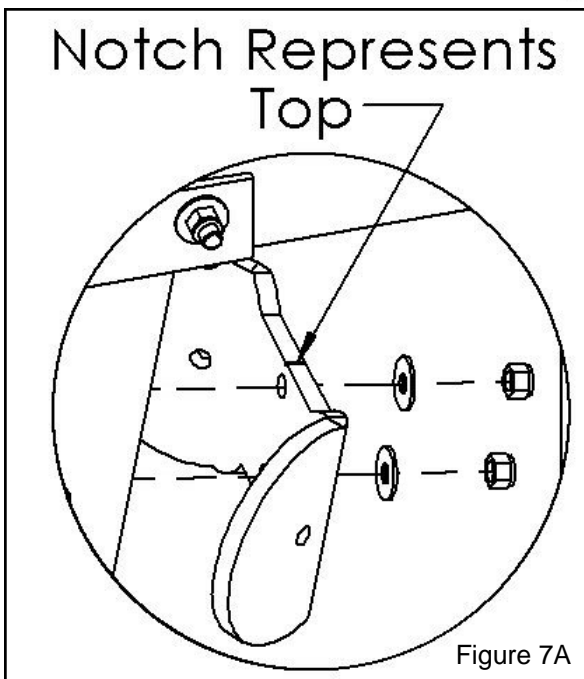

Figure 7A
Note: The Pec Pulley Holder (26) can very easily be put on upside down. Note that the notch represents the top, as shown in Figure 7A.